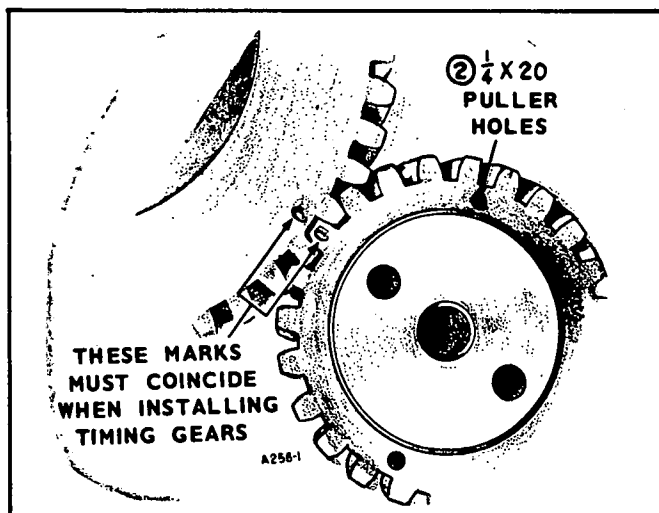

FIGURE 55. TIMING MARKS
5. Install the camshaft assembly in the engine. Align the timing marks on the camshaft gear and crankshaft gear. See Figure 55.